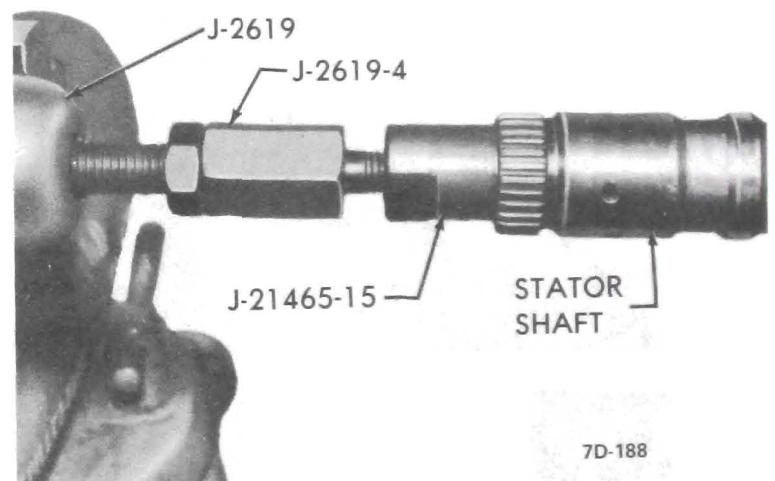

Figure 7D-188
a. Thread J-21465-15 into stator shaft bushing. Thread Slide Hammer J-2619 into remover. Clamp slide hammer handle into vise. Grasp stator shaft and remove bushing. See Figure 7D-188.
b. Using Installer J-21465-3 install bushing in front of shaft. See Figure 7D-189.
c. See Figure 7D-189 for installation of bushing in rear of shaft.